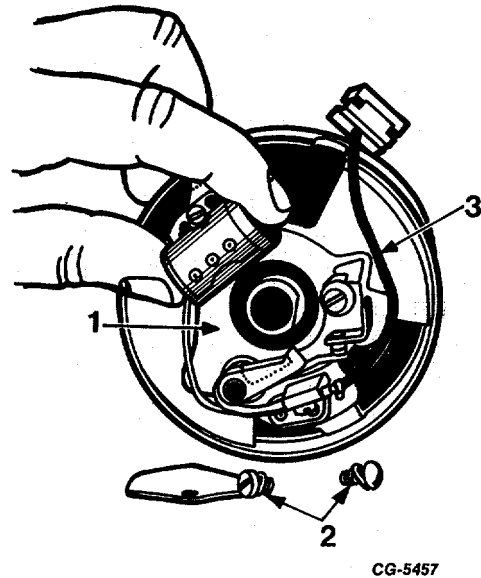

Fig. 10 Removing Breaker Plate Assembly
- c. Lift plate assembly (with contact points and condenser) out of housing (Figure 10).